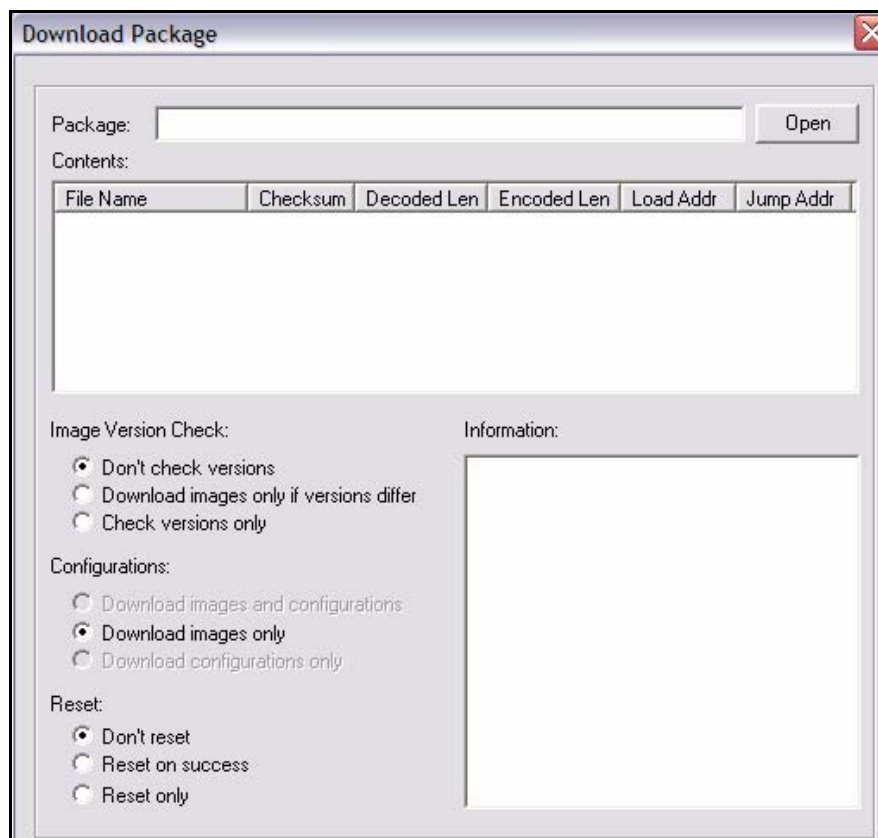

Figure 14. Download Package Dialog Box
16. Click the Open button in the Download Package dialog box again (Figure 14 on page 15) and navigate back to the remote packages on your laptop.